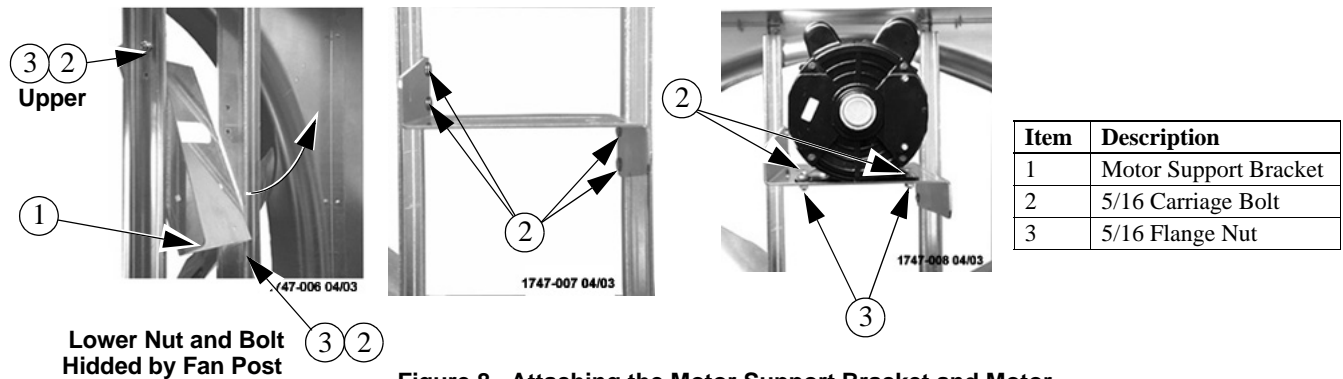

Figure 8. Attaching the Motor Support Bracket and Motor
Rotate the Motor Support Bracket into the upright position by removing the **Upper** Carriage Bolt and Nut and loosening the **Lower** Bolt and Nut (**See Figure 8**). Rotate the Motor Support Bracket until it is perpendicular to the Fan Posts and fasten with (4) 5/16 Carriage Bolts and (4) 5/16 Flange Nuts. *Note that the Nuts go outside the Posts.* Remove the Motor from the Crate and attach it to the Motor Support Bracket with (4) 5/16 Carriage Bolts and (4) 5/16 Flange Nuts **as shown**.